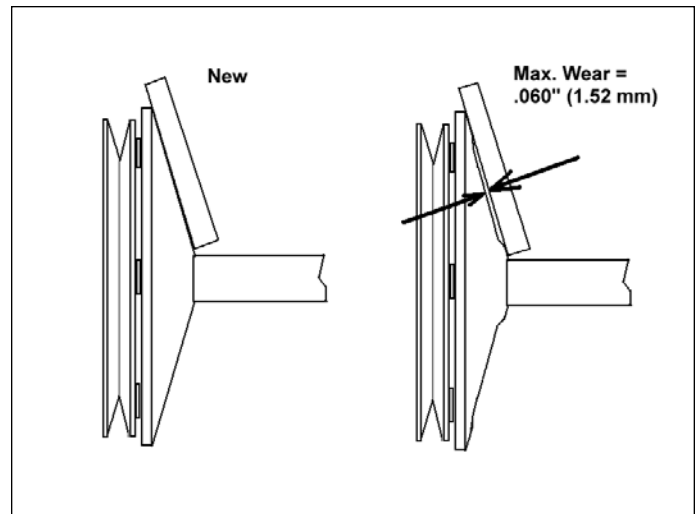

Figure 3 - Clutch Sheave Wear
2. Using a straight edge, check the belt contact surface of the fixed half pulley and sliding half pulley for wear. If wear exceeds .060 inches (1.52 mm.), floating half pulley, fixed half pulley, or primary drive clutch assembly should be replaced. See Figure 3.